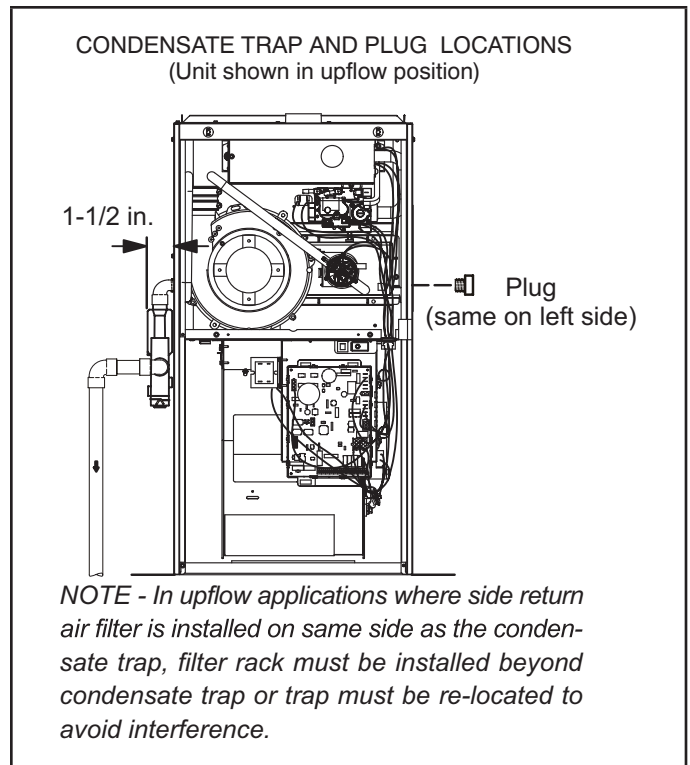
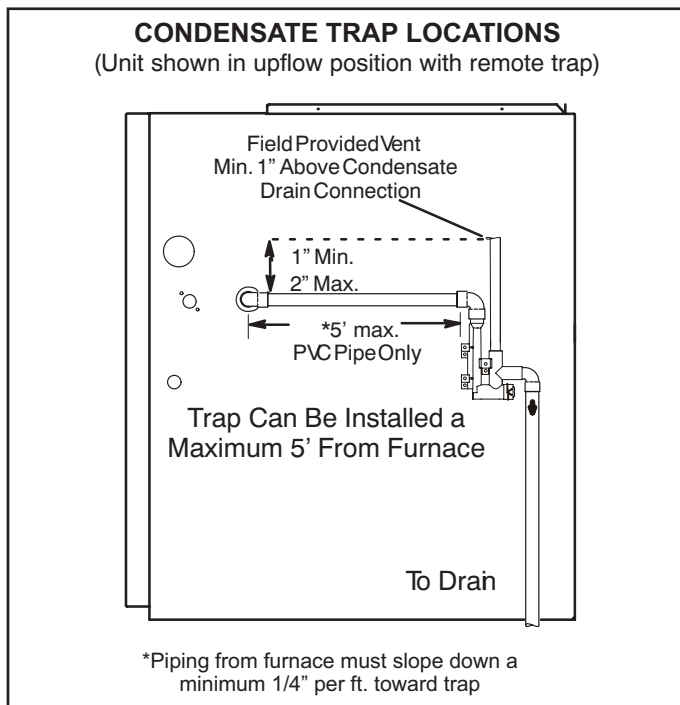

FIGURE 39
FIGURE 41
This unit is designed for either right- or left-side exit of condensate piping in upflow applications. In horizontal applications, the condensate trap must extend below the unit. An 8" service clearance is required for the condensate trap. Refer to FIGURE 39 and FIGURE 41 for condensate trap locations. Figure 39 shows trap assembly using 1/2" PVC or 3/4" PVC.
- 3 - Install the cap over the clean out opening at the base of the trap. Secure with clamp. See figure 39.